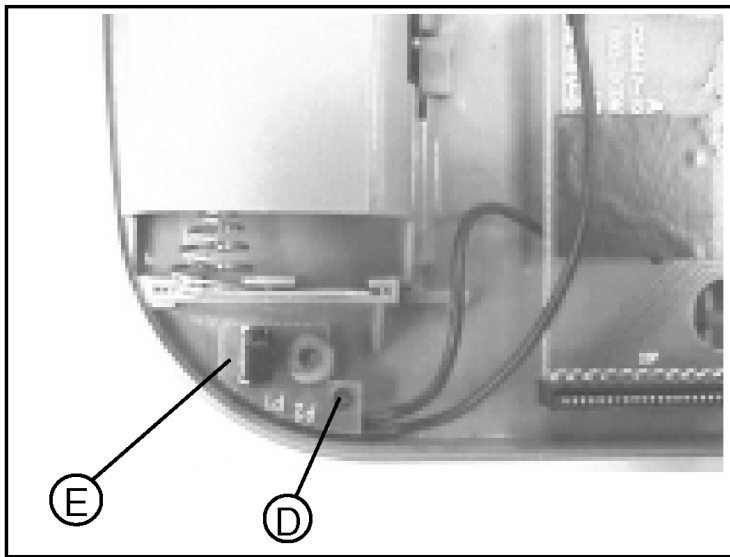

Fig. 5
- Undo 1 screw ① (Fig. 5)
- Remove CD door switch board ② (Fig. 5)